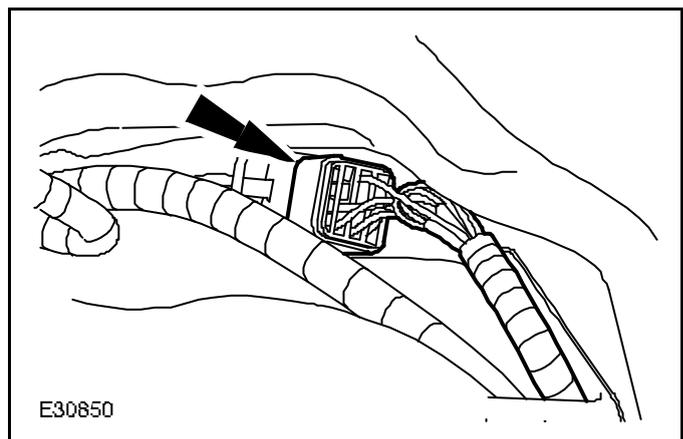

Fig. 3
- 11 Connect the automatic transmission electrical connector (see Fig. 3).